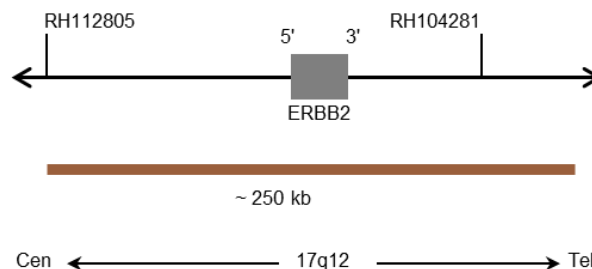

Fig. 1: SPEC ERBB2 Probe map (not to scale)
- Digoxigenin-labeled polynucleotides (~1.8 ng/μl), which target sequences mapping in 17q12\* (chr17:37,725,661-37,973,541) harboring the ERBB2 gene region (see Fig. 1).